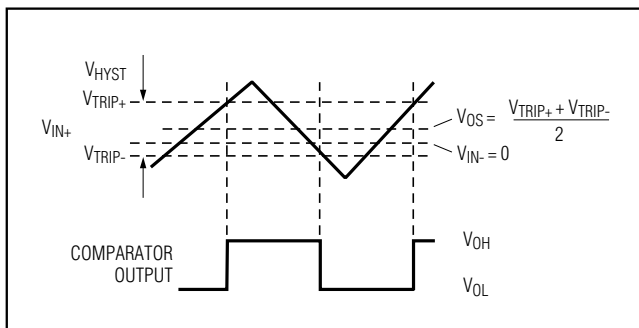

Figure 1. Input and Output Waveforms, Noninverting Input Varied
- Note 3:**  $V_{OS}$  is defined as the mean of trip points. The trip points are the extremities of the differential input voltage required to make the comparator output change state (Figure 1).
- Note 4:** The difference between the upper and lower trip points is equal to the width of the input-referred hysteresis zone (Figure 1).
- Note 5:** Propagation Delay is guaranteed by design. For low overdrive conditions,  $V_{TRIP}$  (Figure 1) is added to the overdrive.
High-speed comparators can oscillate in the linear operating region because of noise or undesired parasitic feedback. This tends to occur when the voltage on one input is equal to or very close to the voltage on the other input. The MAX976/MAX978/MAX998 have internal hysteresis to counter parasitic effects and noise. The hysteresis in a comparator creates two trip points: one for the rising input voltage and one for the falling input voltage (Figure 1). The difference between the trip points is the hysteresis. When the comparator input voltages are equal, the hysteresis effectively causes one comparator input voltage to move quickly past the other, taking the input out of the region where oscillation occurs.
Figure 1 illustrates the case where IN- has a fixed voltage applied and IN+ is varied. If the inputs were reversed, the figure would be the same, except with an inverted output.